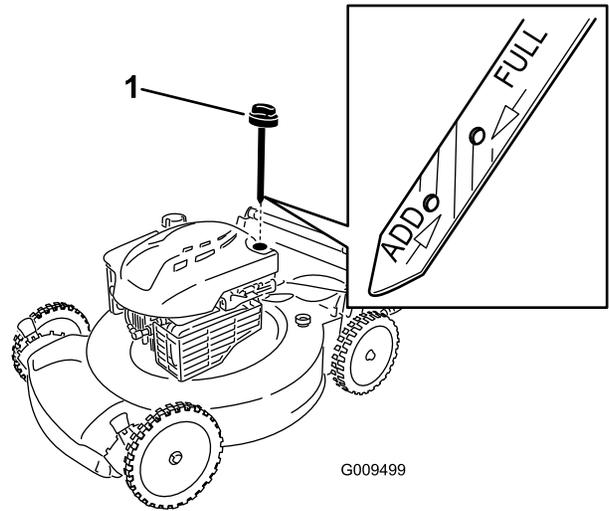

Figure 4
1. Remove the dipstick (Figure 4).
2. Slowly pour oil into the oil fill tube until the oil level reaches the Full line on the dipstick (Figure 4). **Do not overfill.**